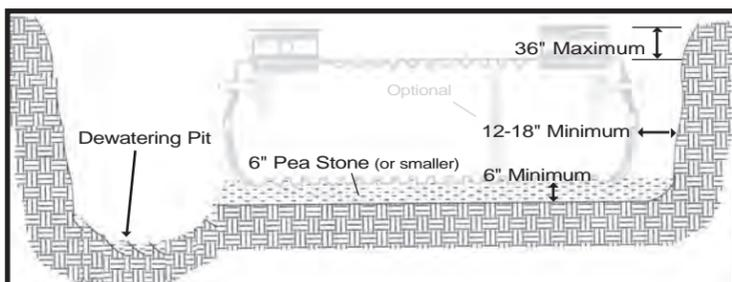

FIG. 1 Excavation
- Width and length of excavation shall be 12-18" greater than the tank on all sides and ends (FIG.1).
- Depth of the excavation shall be 6" greater than the tank (FIG.1).
- Add pea stone, sand, gravel or other similar granular material to bed the tank and ensure uniform compaction and that bed is level (FIG.1)